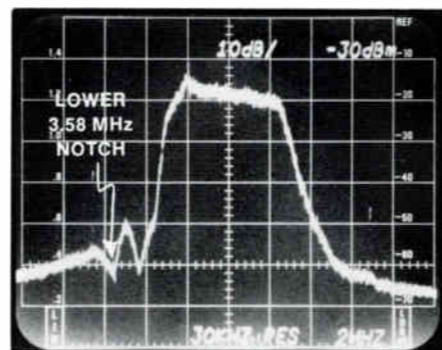

Figure 5. Sideband Response Using Noise (2 MHz/DIV).
5. The lower sideband color notch location can be identified by alternately switching in a multiburst signal to identify the position. Then using the full field noise source, the notch should be measured or adjusted to be 42 dB or more below the average working part of the vestigial sideband filter as indicated in Figure 5.